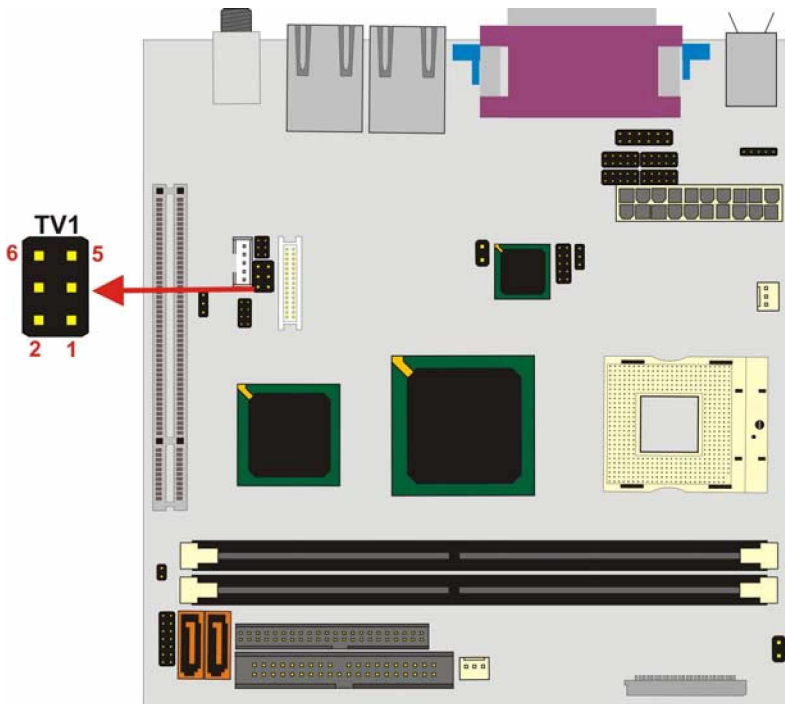

Figure 3-16: TV Connector Pinout Locations
- CN Location:** See Figure 3-16